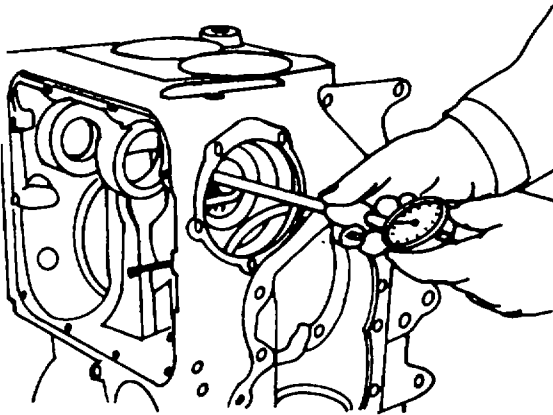

Figure 5-77. Measuring Camshaft Bearing Bore
5. Measure bearing bore at points 1 and 2 in planes a and b (figures 5-77 and 5-78); check for any constriction, ovalness, and conicity.